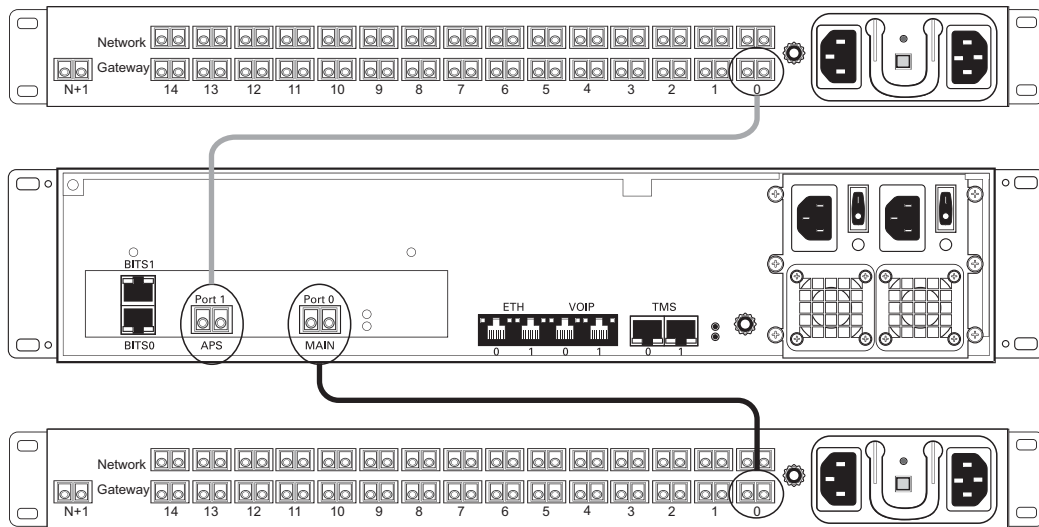

Figure 4.6 Optical Interface to the 7800 N+1 Patch Panel
1. Connect main fiber optic cables from each TMG7800-STM1 to a free port (0-14) on the Gateway side of a 7800 N+1 patch panel used for main connections. See figure 4.6 on page 31.
2. Connect APS fiber optic cables from each TMG7800-STM1 to a free matching port (0-14) on the Gateway side of a 7800 N+1 patch panel used for APS connections. See figure 4.6 on page 31.